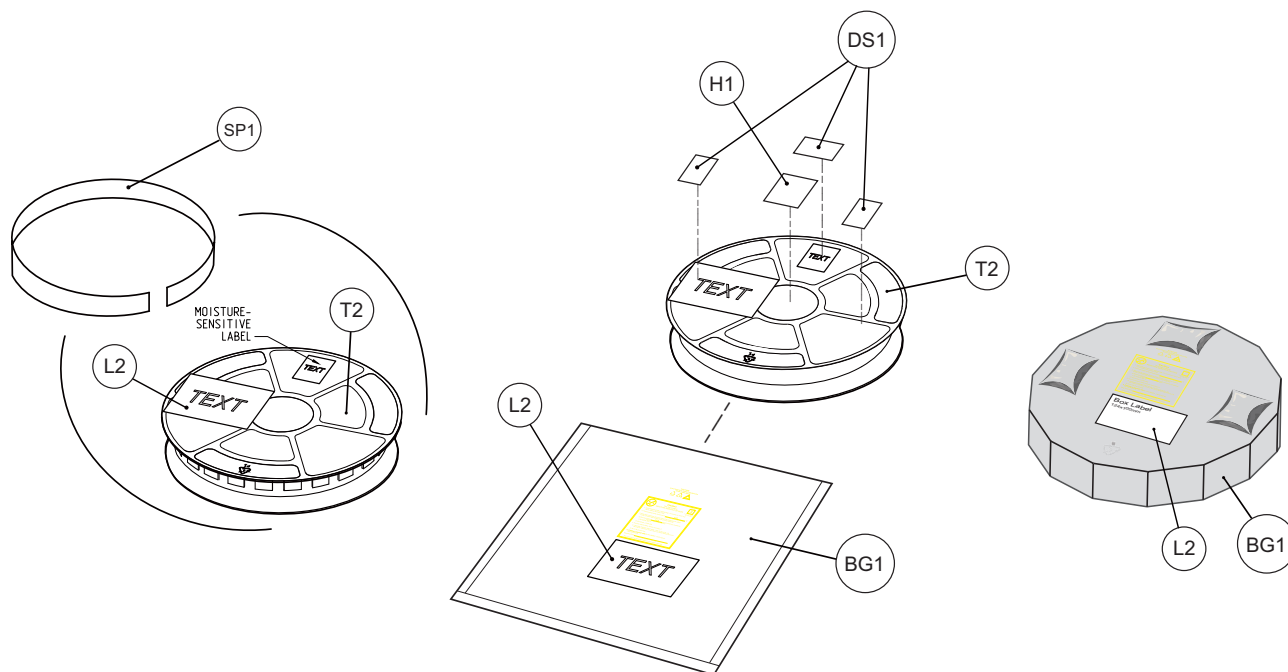

Figure 10-3: Reel Preparation
1. Reel preparation (Figure 10-3):